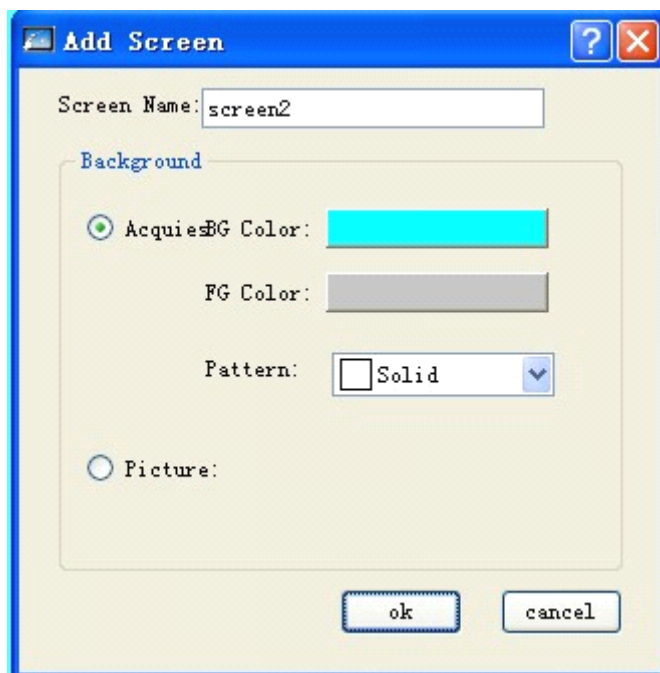

Figure 4-2 New screen dialog
2. In the “New Screen” pop-up dialog, set the name and background color of the screen to be created, and then click OK. The default name of a new screen is the serial number of the screen, and the default background color is blue. See Figure 4-2.